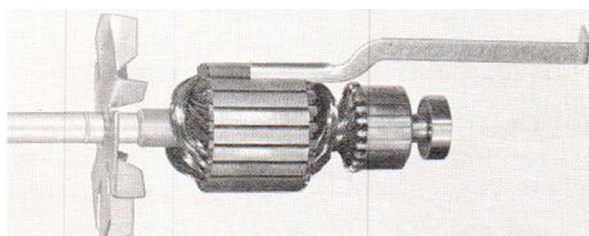

Figure 1-15. Locking tool positioned in armature slot
area (A) shown in figure 1-13 slides into one of the slots in the armature laminations. See figure 1-15. The protruding part of the tool bears against the internal shoulder of the field laminations.